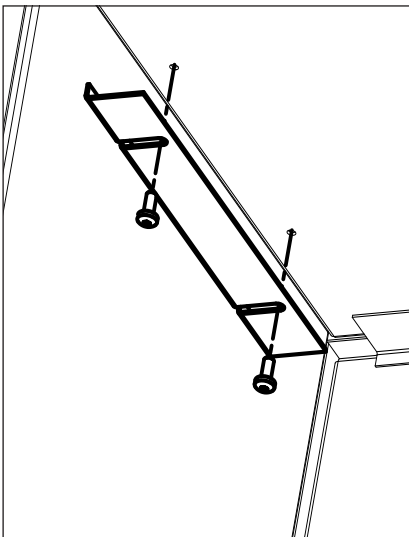

Figure 11: Liner Retainer Removal
2. Loosen the two (2) T20 screws on the liner retainer (Figure 11).